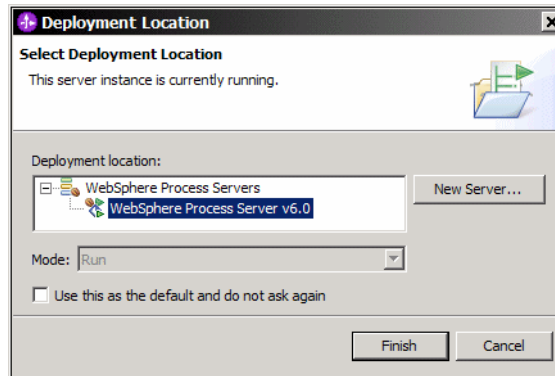

Figure 9-27 Testing: Deployment location
- ▶ Select the deployment location as *WebSphere Process Server v6.0* and click *Finish* (Figure 9-27).